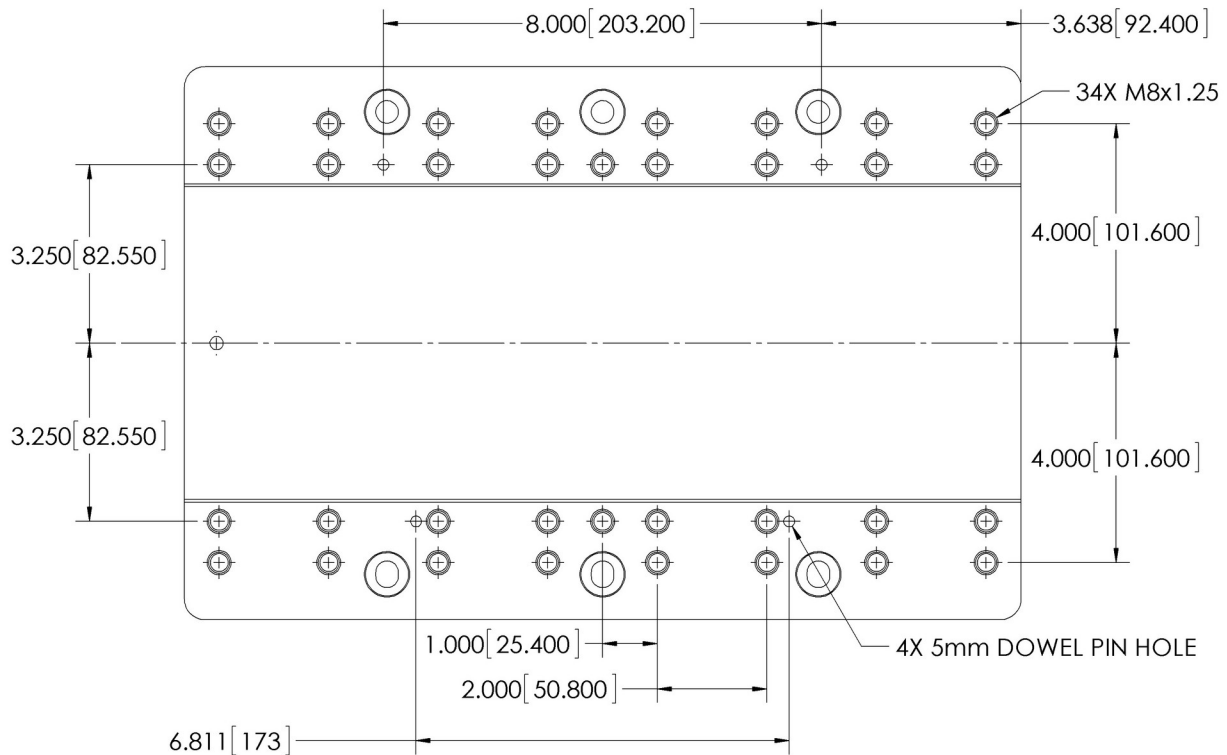

Figure 1: Carriage bolt hole pattern
The bolt pattern on the Carriage has been designed to facilitate process equipment installation. The Carriage has thirty-four (34) M8x1.25 mounting holes with a depth of 0.52 inch (13 mm) to provide secure attachment points. The mounting holes are spaced as shown in Figure 1. The Carriage also has two (2) 5mm dowel pin holes to be used for process equipment alignment. (See Figure 1 for location) These dowel pin holes are oversized to allow the pins to be glued into place using Loctite 609, or equivalent. **Only utilize 4 of the M6x1 mounting holes; using more than 4 may cause warping of the carriage.**